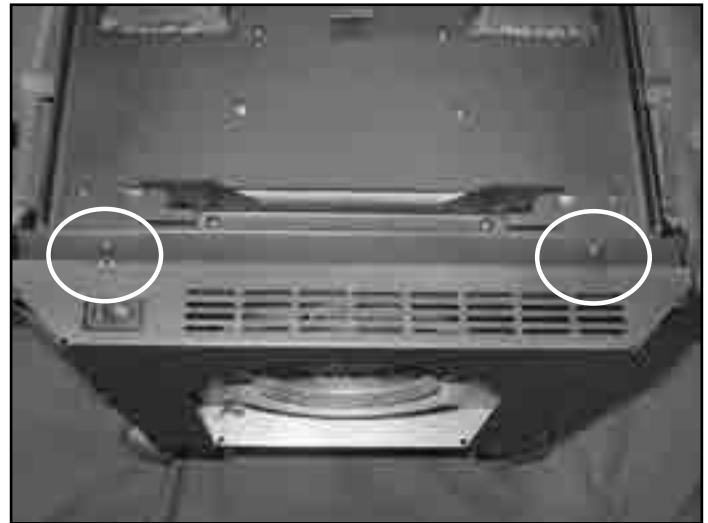

Figure 8.4 Remove Back Shield
2. Lift off the appliance top and place it on a flat surface, with the porcelain side up to prevent damage. Remove the back shield by removing the two screws along the top of the shield. See Figure 8.4. Place the blower on the floor behind the appliance and route the ends of the wiring harness through the rubber grommet on the underside.